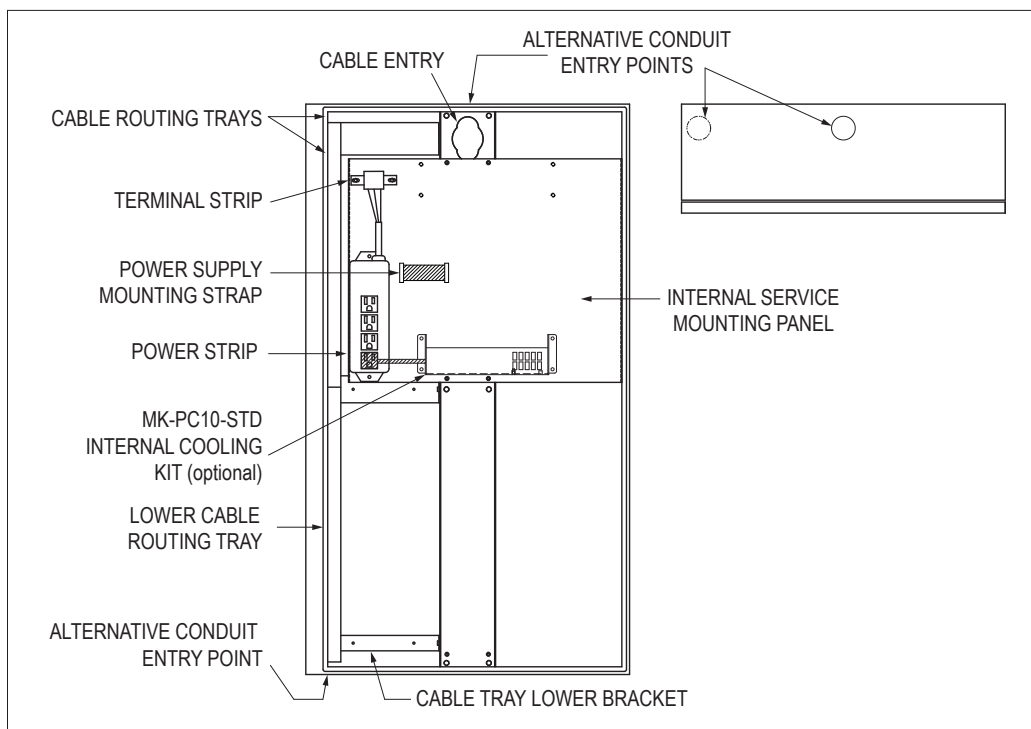

FIGURE 1 – INSIDE AND TOP VIEWS OF ENCLOSURE
1. Refer to Figure 1. A wiring entry hole is provided at the top center of the enclosure for use when pedestal or wall mounting the enclosure. If cables will not be going through the rear hole already provided, punch conduit holes as required.
**NOTE: If punching conduit holes in the enclosure, place the hole(s) so that wires can be routed through the trays provided. See Figure 1 for alternative conduit entry points on the enclosure top, bottom, and rear walls. If necessary, remove cable routing covers and trays before drilling to avoid damage and to allow room for conduit installation. In wet environments, ensure that conduit entry points are adequately sealed.**
- b. When using the optional Dell Optiplex XE2 mounting kit (part number MK-PC10-DELLXE2): Refer to Figures 1 and 5.
4. Refer to Figure 1. Install any additional equipment on the internal service panel. The panel can be removed for drilling as required.
**NOTE:** If you ordered the optional MK-PC10-STD internal cooling kit, install it on the service panel now, as shown in Figure 1. This cooling kit may be low-mounted, as shown in Figure 1, or high-mounted on the top mounting pattern on the service panel. Hook up power to the internal cooling kit by plugging the kit's AC cable into an outlet on the power strip. For non-North American power strips, connect power using the alternative cable that shipped with your internal cooling kit. Connect the cable to the kit, then connect the pigtail end to the AC input terminal blocks.
5. Refer to Figure 1. Remove cable routing tray covers and route the power cable to the power strip terminal block on the internal service panel. Route all signal cables (video, keyboard/mouse, serial, network, etc.) and AC power cables as required. For good internal air flow, all cables should be routed neatly through the trays.